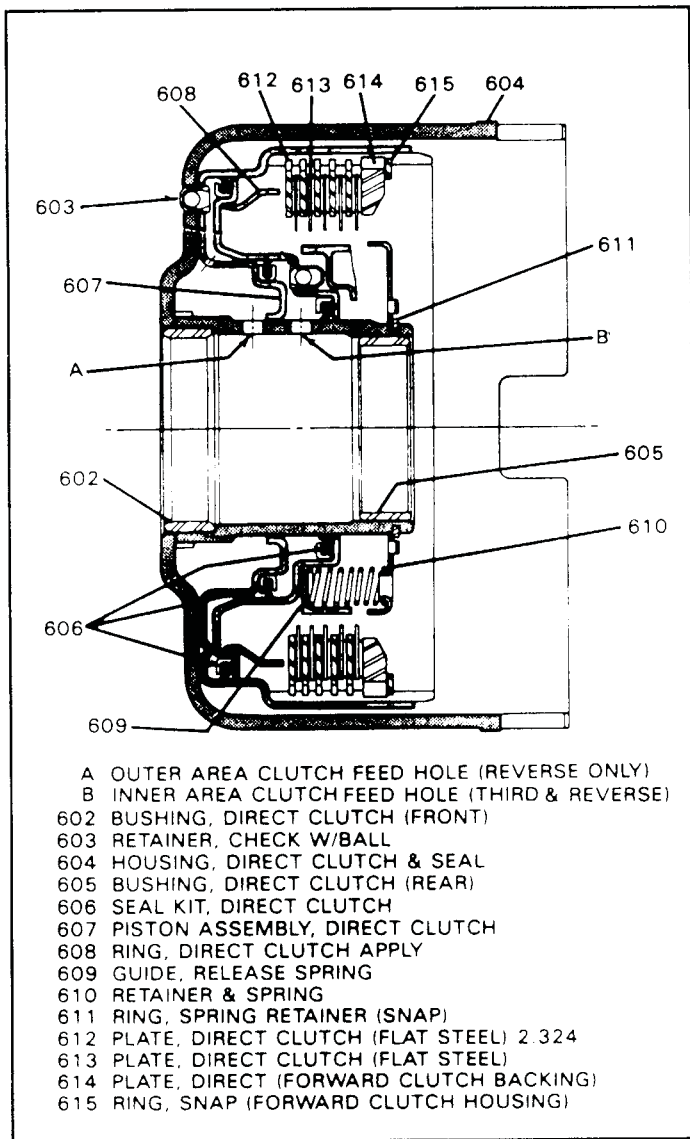

Figure 91
21. Install new inner and outer lip seals onto direct clutch piston with the lip seals facing away from the apply ring, as shown in Figure 91, and lube with a small amount of "Trans-Jel".
22. Install new center lip seal into direct clutch drum with the lip facing "UP", as shown in Figure 91, and lubricate with small amount of "Trans-Jel".
27. Install the return spring guide (609) into direct clutch drum, with the omitted rib over the check ball capsule in piston, as shown in Figure 91.
32. Install the direct clutch plates beginning with a flat steel plate and alternating with lined plates, shown in Figure 91.
34. Install the direct clutch backing plate, with inside bevel facing "UP", as shown in Figure 91.